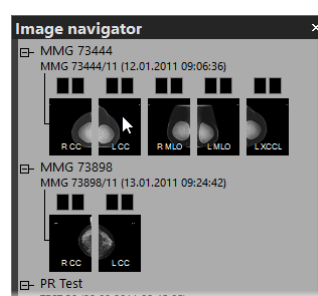

Figure 445 – Display image using the image navigator
- The direct display of one or more image(s) using the mammography image navigator (see Figure 445) in any view of the mammography workspace. The image navigator is an additional image tool that displays the preview of all opened mammography images in the hierarchical tree, and allows to display an image of any opened mammography study in the workspace view in a very simple manner.
2. Expand the selected mammography study, and click the required image preview in the image navigator (see Figure 445).